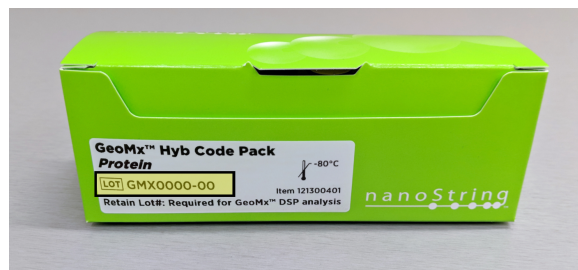

Figure 7: Hyb Code Pack lot number
1. Thaw the **Probe U Master Stock** and the **Probe R Master Stocks** appropriate for the protein core and modules used in the slide preparation protocol. To prepare for a subsequent step, thaw the required **GeoMx Hyb Codes** noted on the lab worksheet. Record the lot number of the GeoMx Hyb Code Pack (see Figure 7).